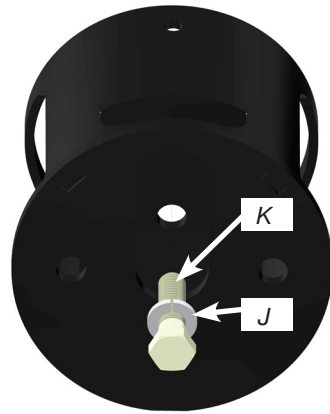
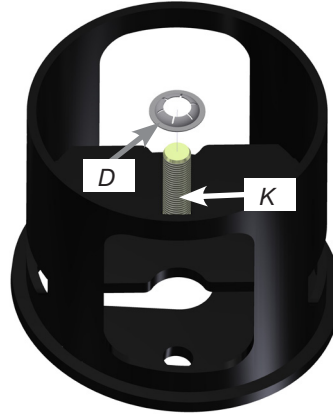

fig. 7
fig. 8
2. Insert long bolt (K) with lock washer (J) through the upper bracket center mounting hole (Fig. 7). Retain the bolt to the upper bracket (Figs. 8 & 9) using push nut (D).